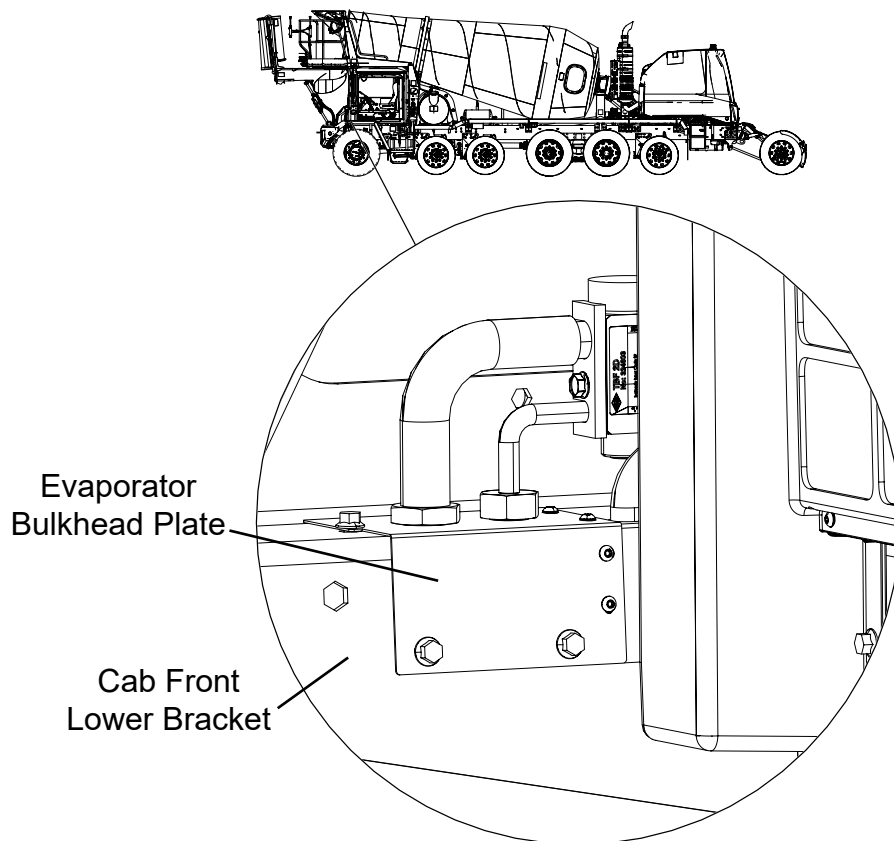

Figure 2
7. Remove hardware securing evaporator bulkhead plate to cab front lower bracket, see Figure 2.
11. Reinstall hardware removed in Step 7 to secure evaporator bulkhead to cab front lower bracket, see Figure 2.